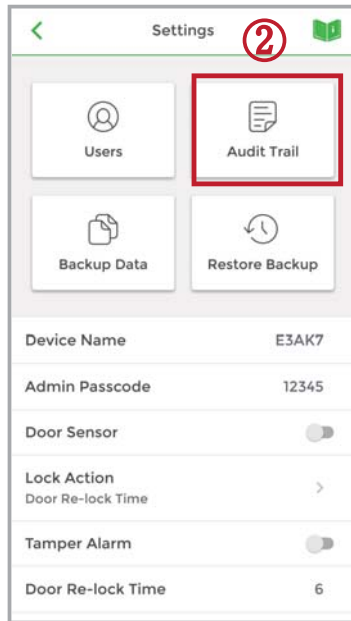
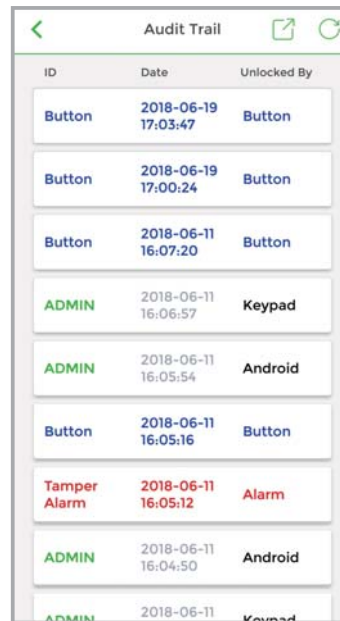

Figure 4
Figure 5
(D) Scheduled : To assign repeatedly access on specific days and hours for a certain period of time. This setting is useful for house cleaners or constructors who need temporary access on regular basis. (See Figure 4 and 5 next page)
② **Audit Trail** : (See Figure 4 and Figure 5 next page)